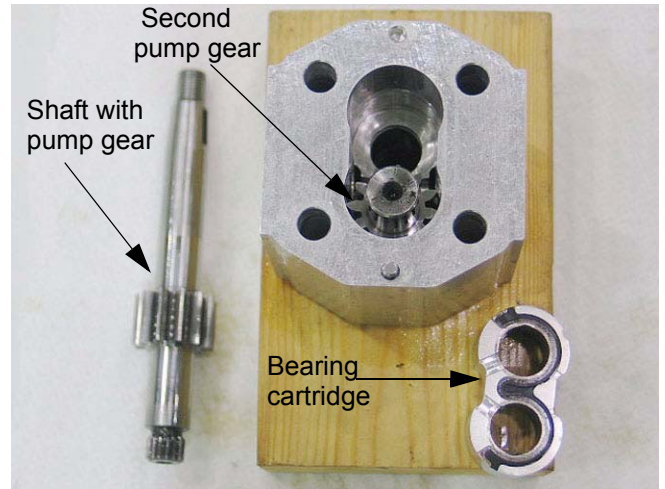

**Figure 11.4**
11.4. The second set of socket head cap screws holds the two housing ends to the body of the pump. See Figure 11.4.